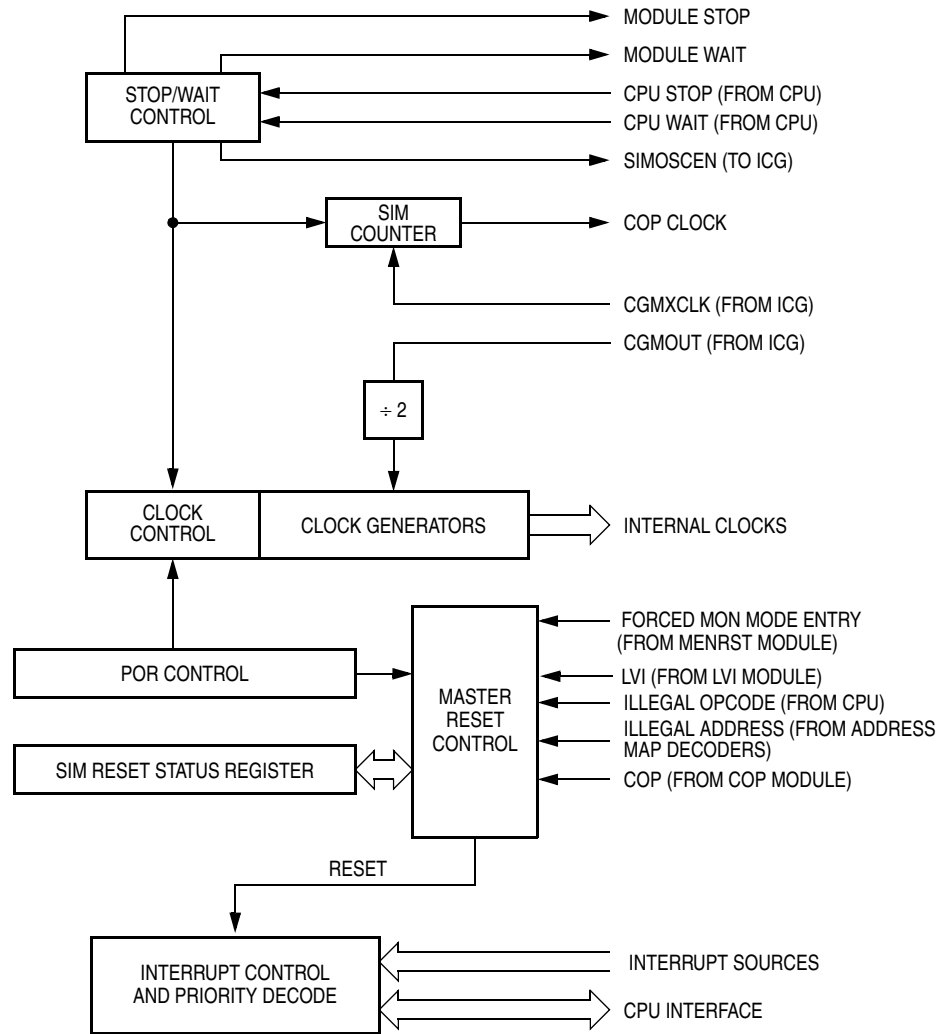

Figure 13-2. SIM Block Diagram
**Figure 13-1** is a summary of the SIM input/output (I/O) registers. A block diagram of the SIM is shown in **Figure 13-2**.